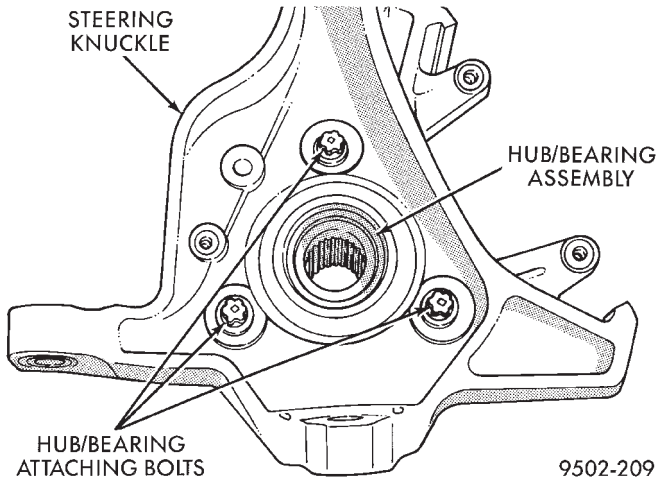

Fig. 72 Hub/Bearing Attaching Bolts
(18) Remove steering knuckle from vehicle.
(19) Mount steering knuckle securely in a vise.
(20) Remove the 3 bolts (Fig. 72) attaching the hub/bearing assembly to the steering knuckle.
(21) Remove the hub/bearing assembly out from the front of the steering knuckle. **If bearing will not come out of steering knuckle, it can be tapped out using a soft faced hammer.**
(22) Thoroughly clean all hub/bearing assembly mounting surfaces on steering knuckle.
(23) Install the replacement hub/bearing assembly in steering knuckle aligning bolt holes in bearing flange with holes in steering knuckle.
(24) Install the 3 mounting bolts (Fig. 72) and tighten evenly to ensure bearing is square to face of steering knuckle. Then tighten the 3 mounting bolts (Fig. 72) to a torque of 110 N·m (80 ft. lbs.).